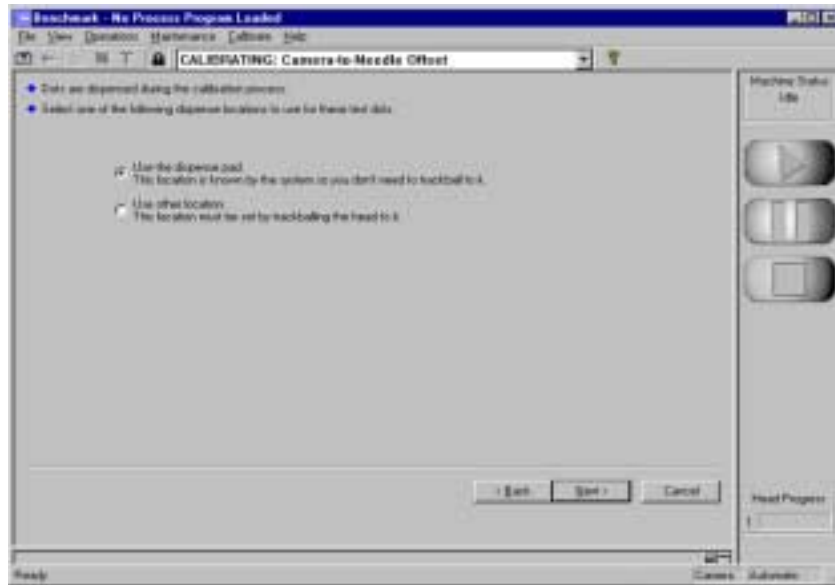

Figure 6-9
Two buttons are displayed in the **Camera-to-Needle Offset** screen. You have the choice of dispensing test dots on the dispense pad or at a taught location of your own choosing. See Figure 6-9.
1. Select the **Use other location** radio button from the **Camera-to-Needle Offset** screen. See Figure 6-9.